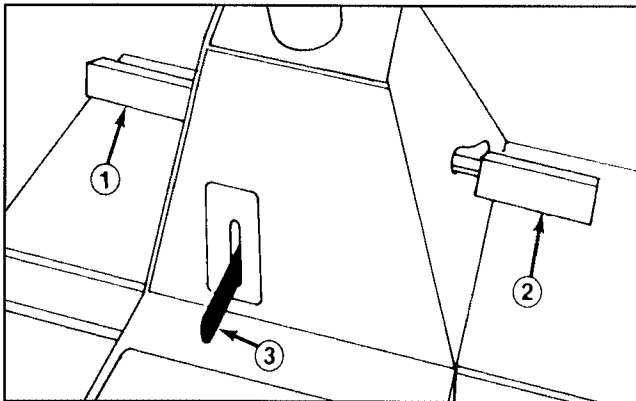

**Figure 7**
**Gear Shift** (Fig. 7)—Transaxle has five forward speeds, neutral and reverse. The gear shift lever is located at right side of operator. An interlock switch prevents engine from being started when transaxle is in any gear except neutral.